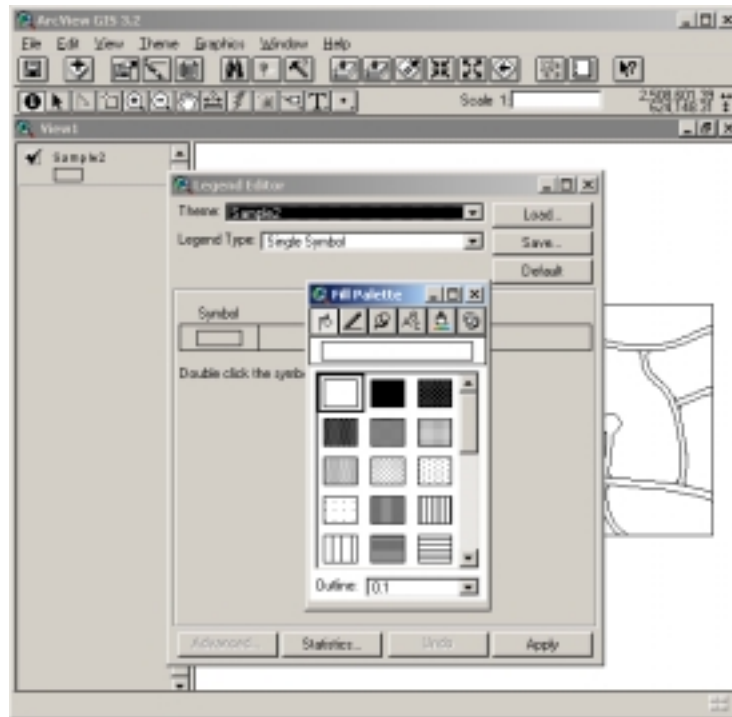

Figure 8
- (1) Open the ArcVIEW® software. When prompted, click the CREATE A NEW PROJECT – WITH A NEW VIEW button and click OK.
- (2) When asked to add new data, click yes and locate the Coverage that was created using ArcCAD® and click OK. A new window will appear labeled View 1. Click the box to the left of the Coverage name to display it.
- (3) To remove the automatic coloring of the drawing double click the colored box below the coverage name to open the Legend Editor window. From here double click the colored box in the symbol column to open the Fill Palette window (figure 8). In the Fill Palette window click the blank box in the top left. Close the Fill Palette window. Hit APPLY in the Legend Editor window and then close it. The Coverage will now be displayed with only the polygon borders showing.